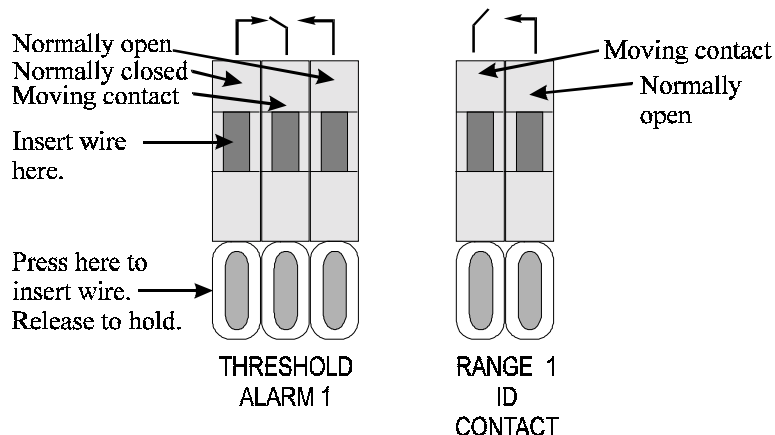

Figure 3-5: Types of Relay Contacts
**Alarm Relays:** The three alarm-circuit connectors are spring terminals for making connections to internal alarm relay contacts. Each provides a set of Form C contacts for each type of alarm. Each has both normally open and normally closed contact connections. The contact connections are indicated by diagrams on the rear panel. They are capable of switching up to 3 amperes at 250 V ac into a resistive load. See Figure 3-5. The connectors are: